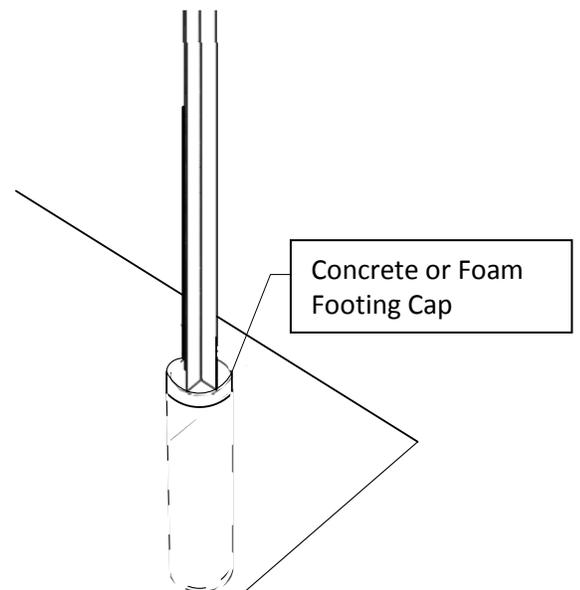

Figure 3
5. Setting Posts: Place first corner Post in posthole to full depth, and temporarily brace. Mix (on average) two to 2-1/2 (80 lb) bags of concrete, OR (on average) .25 gallons closed cell polyurethane expansion foam, and fill hole around post to level of average surface grade of adjoining ground (figure 3):